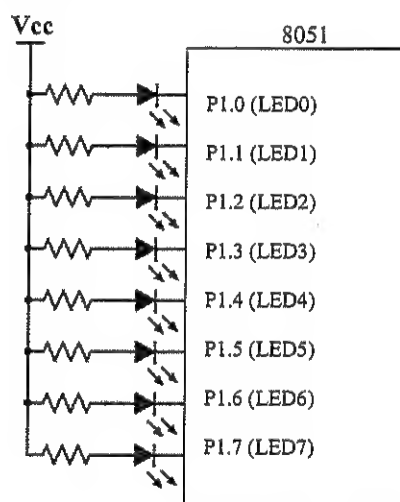

Figure Q2
- a) Analyze the schematic diagram in *Figure Q2* and answer the following questions.